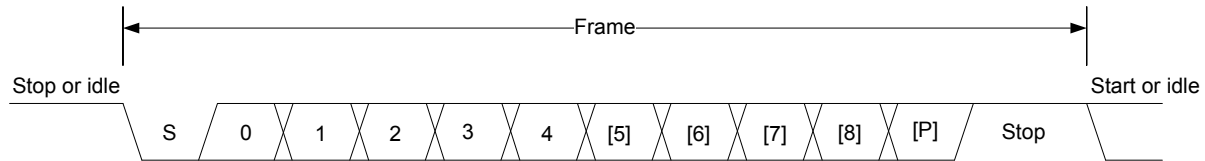

Figure 18.2. USART Asynchronous Frame Format
The frame format used in asynchronous mode consists of a set of data bits in addition to bits for synchronization and optionally a parity bit for error checking. A frame starts with one start-bit (S), where the line is driven low for one bit-period. This signals the start of a frame, and is used for synchronization. Following the start bit are 4 to 16 data bits and an optional parity bit. Finally, a number of stop-bits, where the line is driven high, end the frame. An example frame is shown in Figure 18.2 USART Asynchronous Frame Format on page 531.